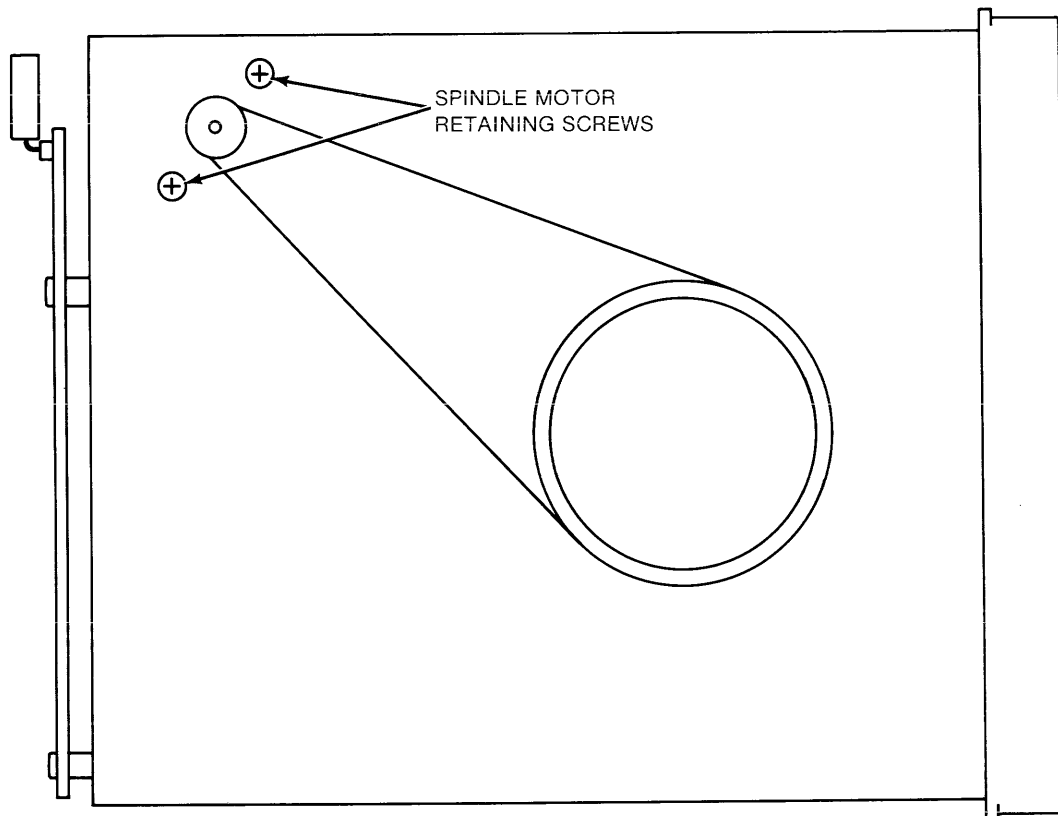

Figure 5-2. Spindle Drive Belt Adjustment
- b. Refer to Figure 5-2 while performing these steps: